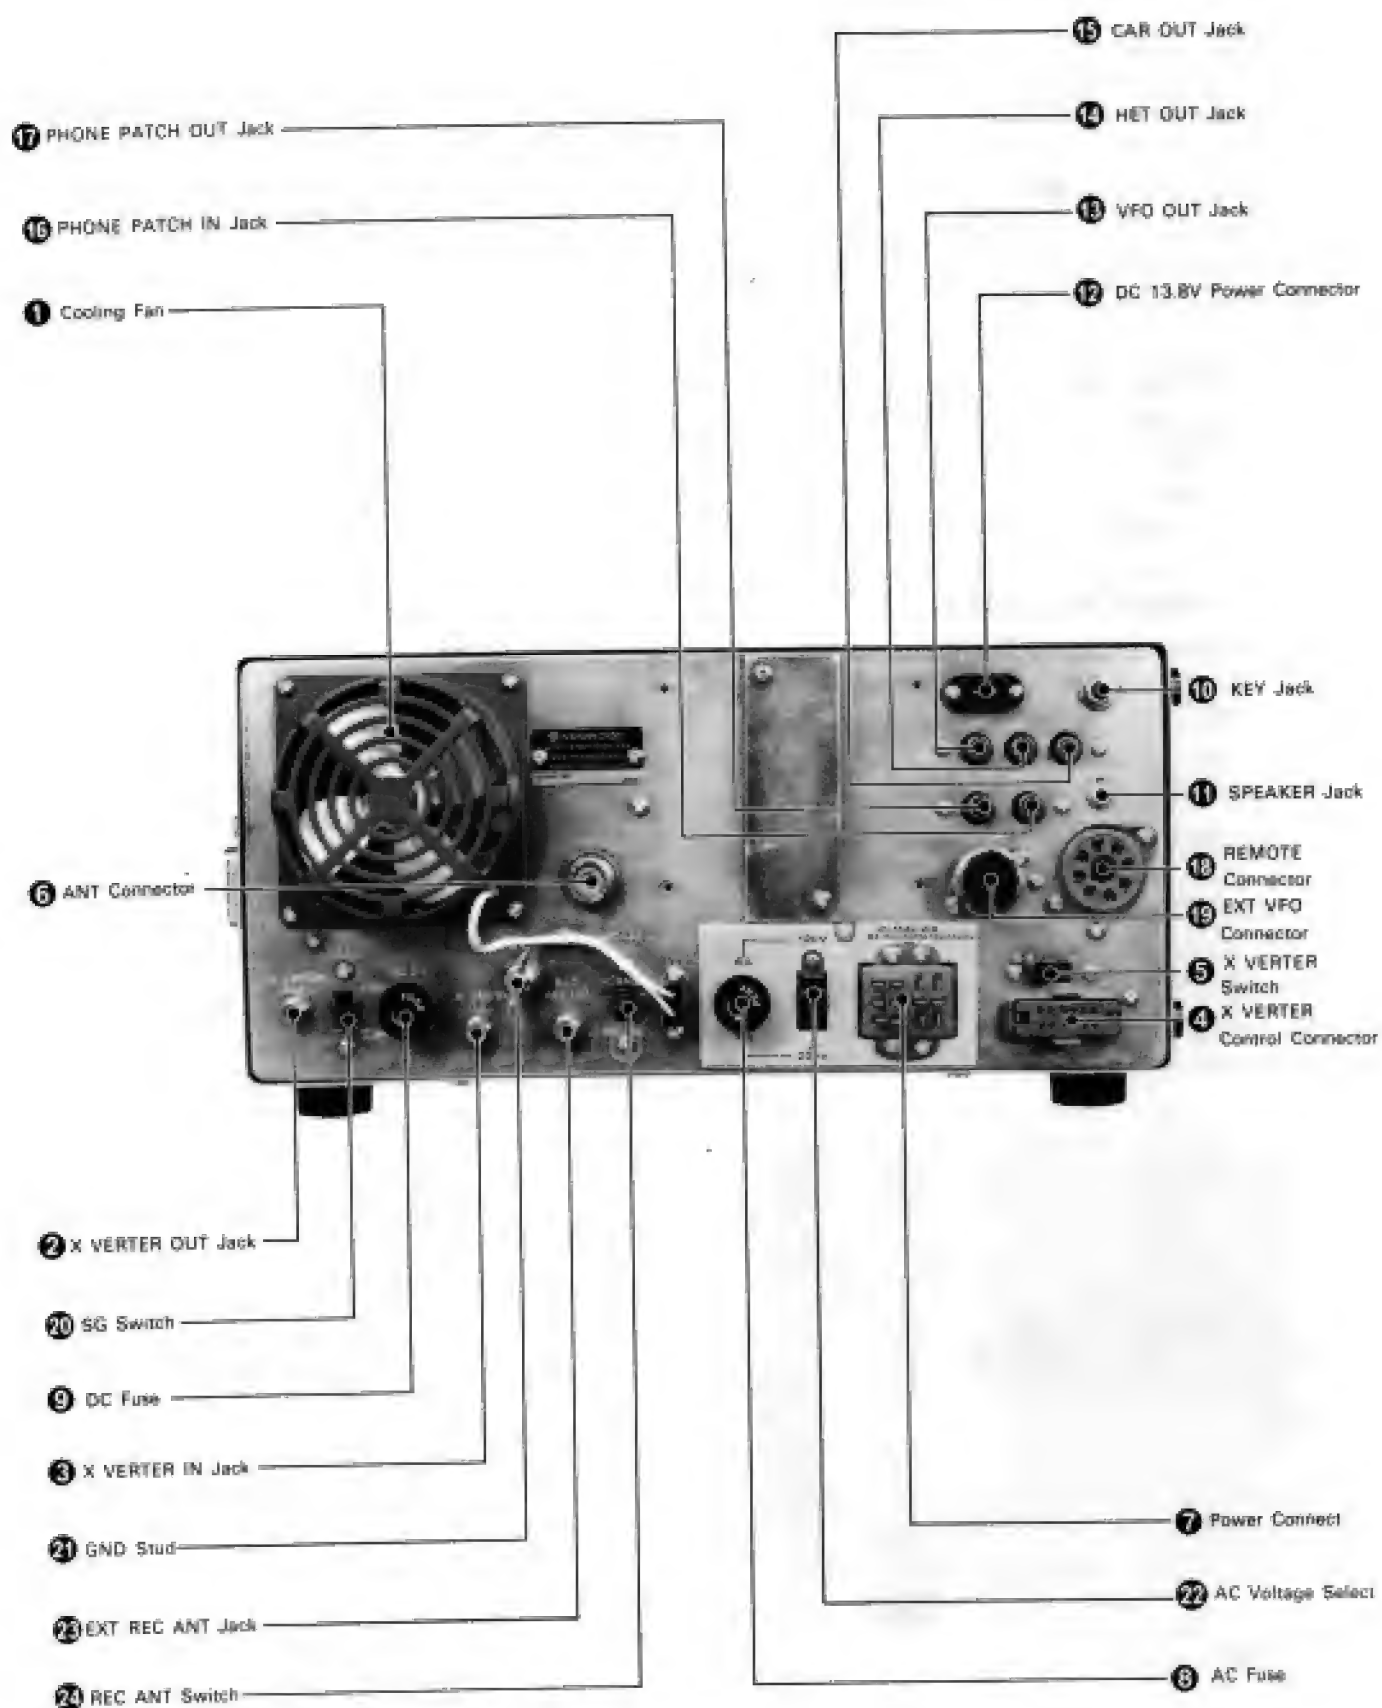

Fig. 7 Rear Panel Controls
3.3 REAR PANEL CONTROLS (See Figure 7)
■ COOLING FAN (1 on Figure 7)
■ TRANSVERTER OUT JACK (2 on Figure 7)
■ TRANSVERTER IN JACK (3 on Figure 7)
■ TRANSVERTER CONNECTOR (4 on Figure 7)
■ XVERTER SWITCH (5 on Figure 7)
■ ANTENNA CONNECTOR (6 on Figure 7)
■ POWER SUPPLY CONNECTOR (7 on Figure 7)
■ AC FUSE (③ on Figure 7)
■ DC FUSE (④ on Figure 7)
■ KEY JACK (⑩ on Figure 7)
■ SPEAKER JACK (⑪ on Figure 7)
■ 13.8V DC CONNECTOR (⑫ on Figure 7)
■ VFO OUT JACK (⑬ on Figure 7)
HET OUT JACK (⑭ on Figure 7)
CAR OUT JACK (⑮ on Figure 7)
■ PHONE PATCH IN JACK (⑯ on Figure 7)
■ PHONE PATCH OUT JACK (⑰ on Figure 7)
■ REMOTE CONNECTOR (⑱ on Figure 7)
■ EXTERNAL VFO CONNECTOR (19 on Figure 7)
■ SG SWITCH (20 on Figure 7)
■ GND (Ground) LUG (21 on Figure 7)
■ AC VOLTAGE SELECT SWITCH (22 on Figure 7)
■ EXTERNAL RECEIVER ANTENNA JACK (23 on Figure 7)
■ RECEIVER ANTENNA SWITCH (24 on Figure 7)